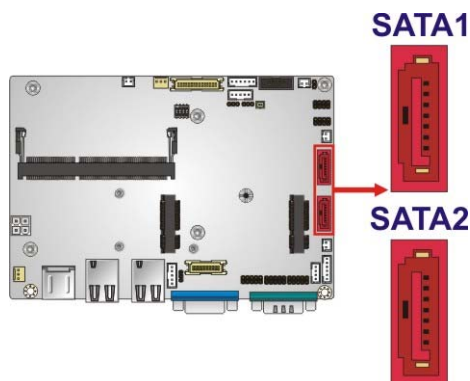

Figure 3-18: SATA Drive Connector Locations
- CN Location:** See **Figure 3-18**